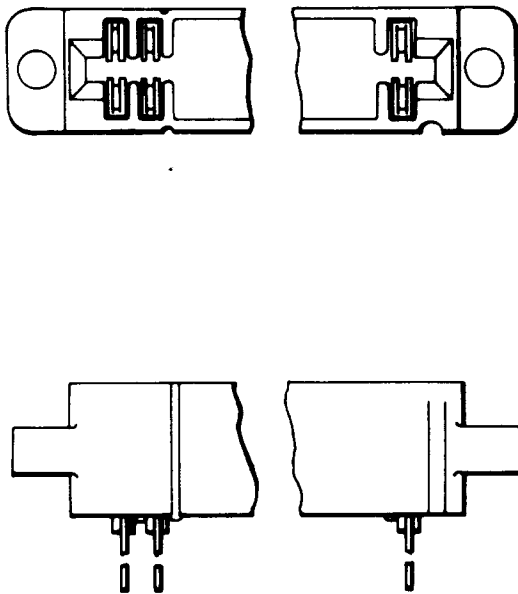

Fig. 14—907B or C Connector
2.06 907B and C: The 907B and C connectors (Fig. 14) consist of a molded block of insulating material containing 14 spring terminals in two rows of seven each. One end of each terminal is contained within the housing and is equipped with twin contacts for connections to a printed wiring terminal. These connectors are arranged to make contact with printed wiring terminals on two sides of a 0.094-inch thick printed wiring board when inserted into the connector.